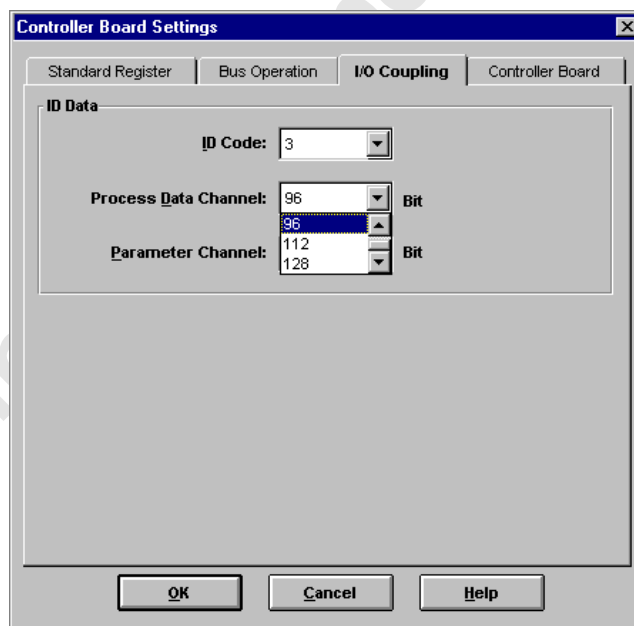

Figure 21 Setting the process data width
2. In the "Controller Board Settings...I/O Coupling" dialog box, set the desired process data channel (e.g., data width 96 bits, see Figure 21).